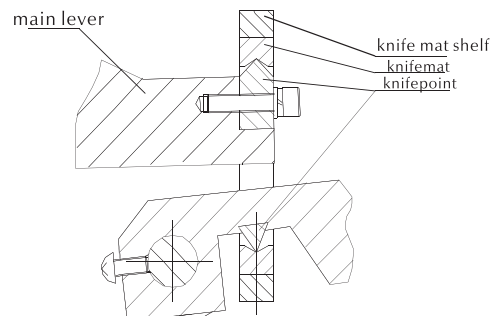

Fig 3
- 3.2.3 Open the top cover, and remove the anti-shock foamed plastic spacer beside the lever, and watch the knife mat shelf, the knife point must be in the knife mat; if not, please press the main lever to place the knife spacer supporter on the knife mat, fig 3. (It won't occur without violent vibrations or shocks.) Replace the top cover.
- 3.2.4 Plug the power cord for the microscope and turn on the switch. The tester is now ready for the operation. (see Fig. 3)